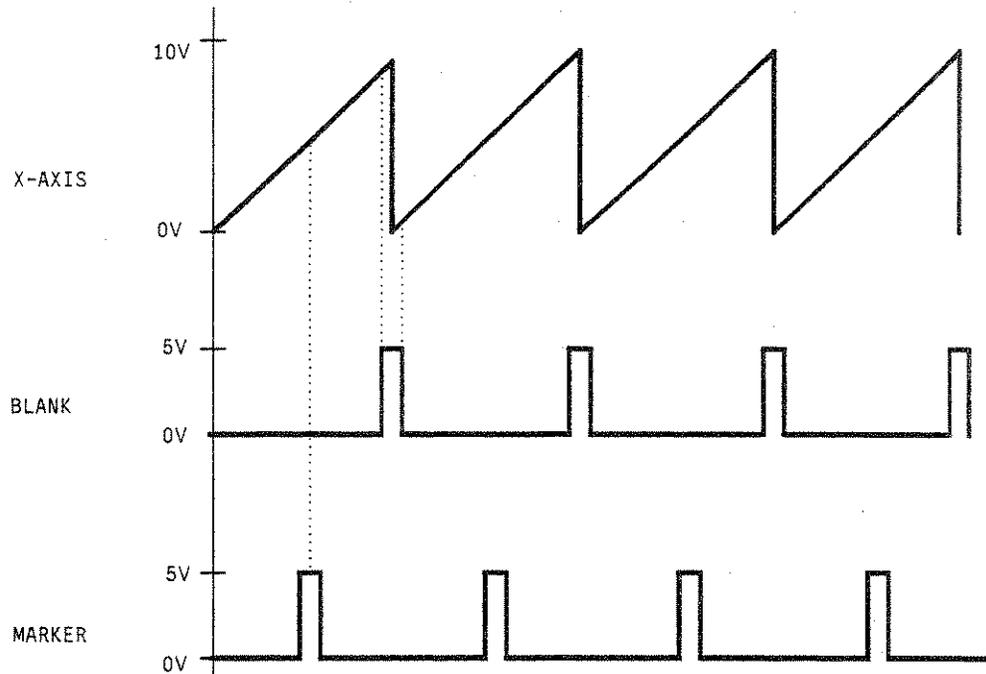

Fig. 2-38 Signal example sweep: MODE = AUTO, BLANK TIME = NORMAL
- AUTO** Sweep from the starting point to the stop point, with automatic restart at the starting point. If another sweep operating mode was activated prior to the AUTO operating mode, continuation is made from the current sweep setting (cf. Fig. 2-38).